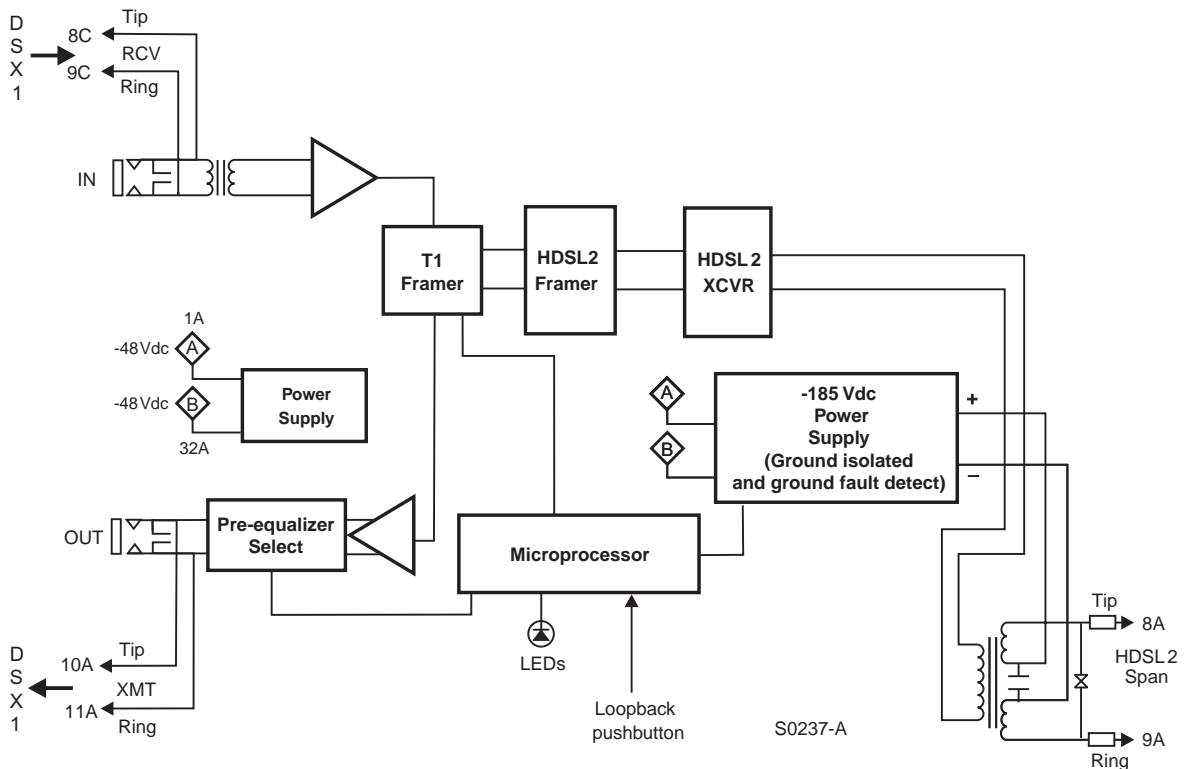

Figure 16. H2LXC Block Diagram
Figure 16 shows a block diagram of the H2LXC. The H2LXC receives a 1.544 Mbps DSX-1 data stream from the DSX-1 digital cross-connect interface. The H2LXC contains a frame synchronizer controlled by an 8-bit microprocessor that detects and synchronizes with the framing on the DS1 stream. The H2LXC recognizes SuperFrame (SF), Extended SuperFrame (ESF), and Unframed (UNFR) signals.